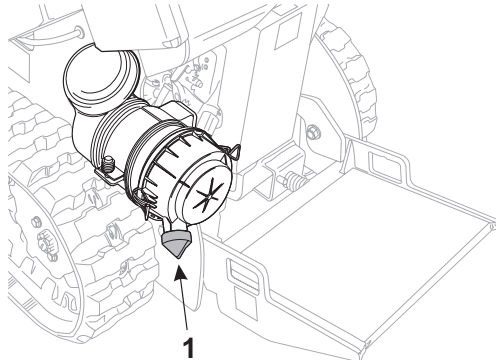

Figure 3-7 Release Dirt from Air Cleaner
7. Release dirt from separator tube at the bottom of the air filter by squeezing the rubber dust ejector valve (Item 1, **Figure 3-7**) underneath the air filter.